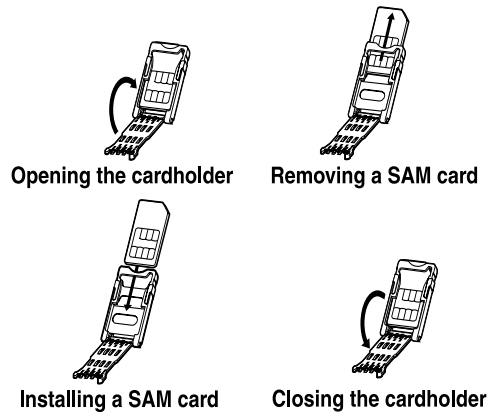

Figure 13 Using an MSAM Cardholder
- Open the cardholder by pivoting the cover from its connector base (Figure 13).
Note: The cardholder connector base has a set of contacts and a notch post on one corner to ensure the MSAM card is positioned correctly when the cover is closed. The MSAM card has a notch on one corner to ensure it fits into the connector base in only one way. Before inserting the MSAM card, position it as shown in Figure 13, with the card's gold contacts facing the terminal's base.
10. Pivot the cover into its connector base (Figure 13).